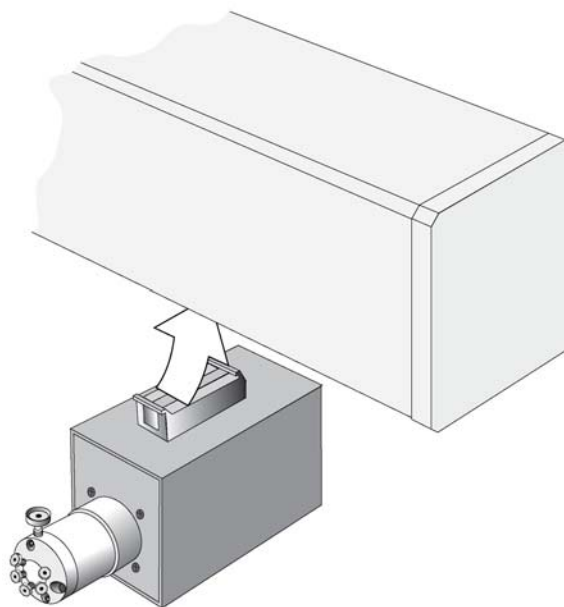

Figure 14 Installing the Injection Valve Drive
- 1 Locate the blue, valve drive. It will have one clamp that is identical to other object clamps. Loosen the clamp as above (see Figure 14 on page 61).